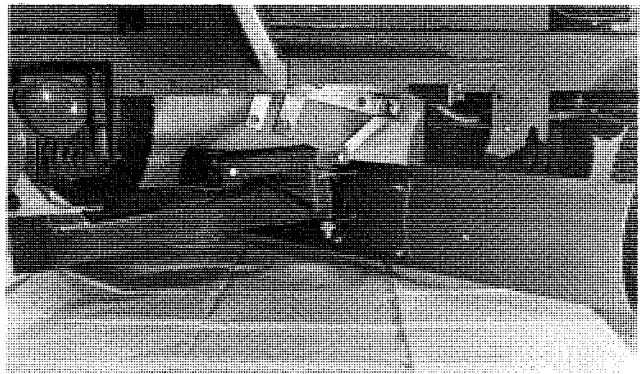

FIGURE 2
Attach the lift link, item 7, to the lift assembly, item 6, as shown in Fig. 2 and attach to the tractor hydraulic lift.